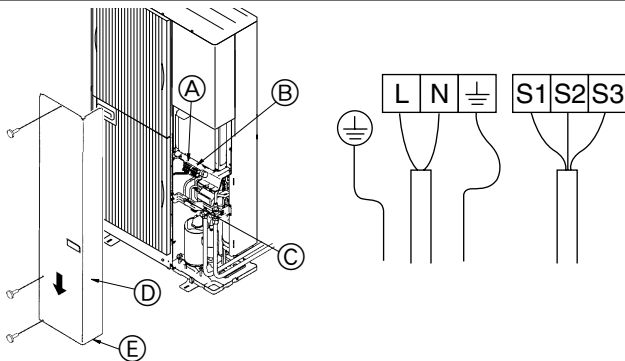

Fig. 7-1
7.1. Outdoor unit (Fig. 7-1)
① Remove the service panel.
② Wire the cables referring to the Fig. 7-1.